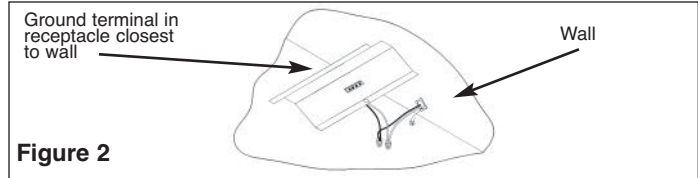
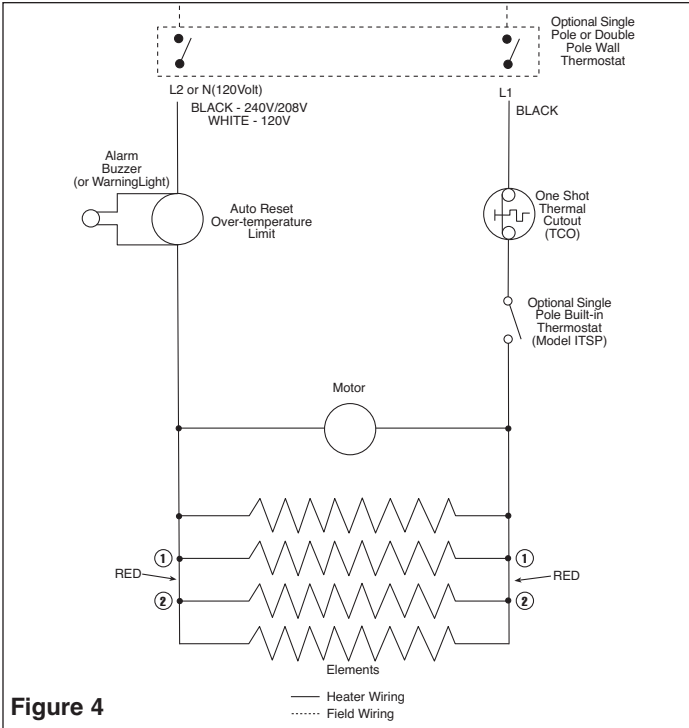

Figure 2
Figure 4
1. Bring supply wire into desired knockout, leaving 6" (152mm) of leads extending into the enclosure as shown in Figure 2.
3. For Model I1500, connect the white (neutral) supply lead to the white receptacle lead and the black line supply lead to the black receptacle lead as shown in Figure 2. (See also wiring diagram shown in Figure 4). For I1504 connect the two black supply leads to the two black receptacle leads. (See wiring diagram shown in Figure 4.)
4. Install junction box cover as shown in Figure 2.